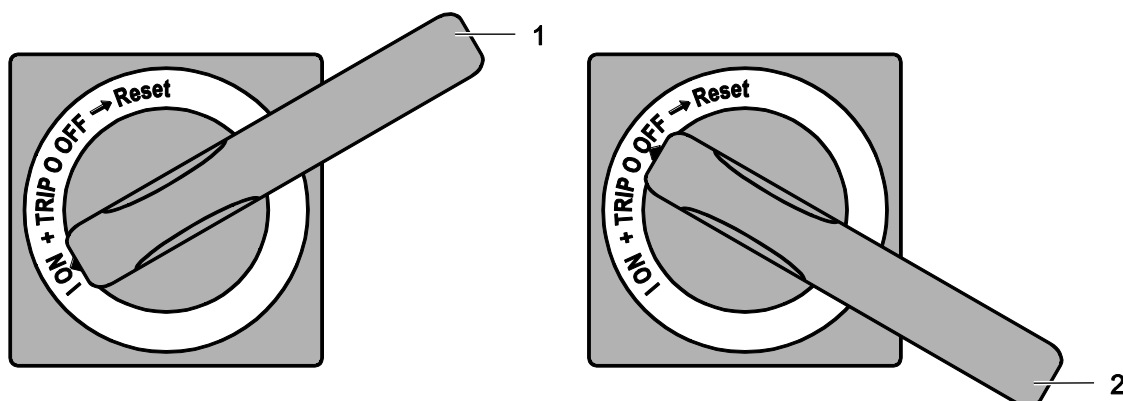

Fig. 6- 18 Main switch
- Select the screen page "Vacuum" (see Fig. 6- 2).